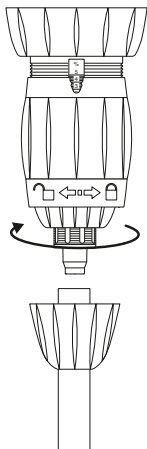

Fig. 15
- Unscrew the nut and pull downwards to remove the suction hose (Fig.15);